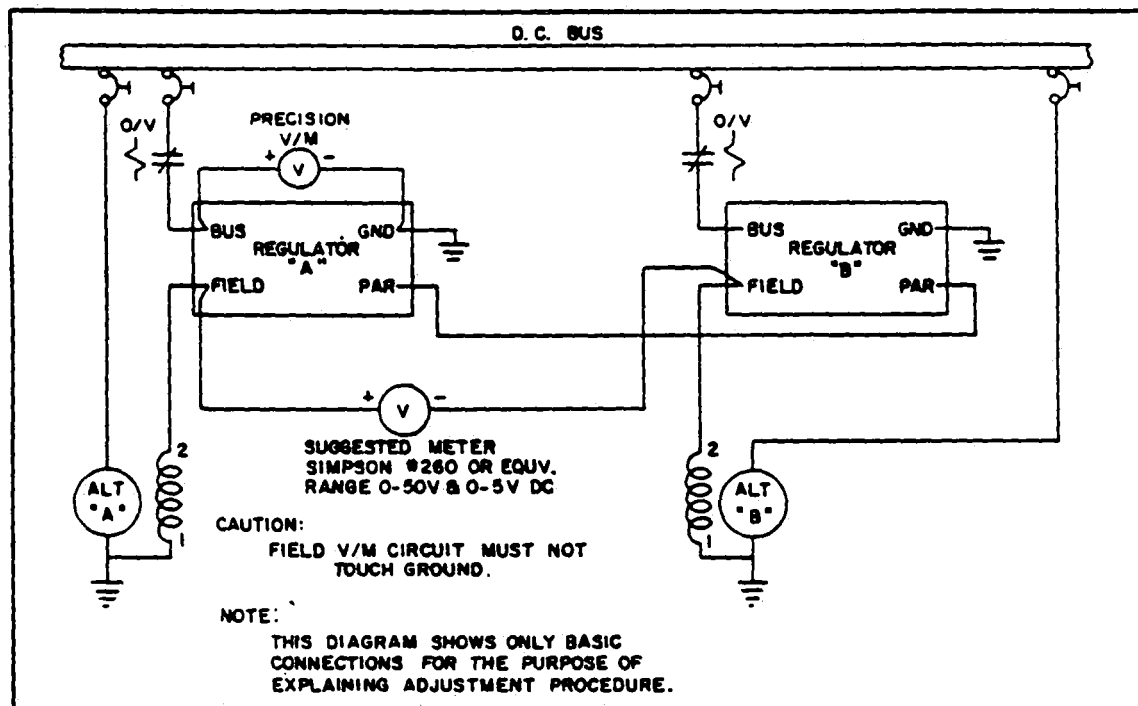

Figure 11-36b. Adjusting Regulator (LAMAR)
a. These regulators are normally used in parallel alternator systems of multi-engine aircraft. Their final adjustment should be made in actual operation in the aircraft system with test equipment connected as shown in Figure 11-36b. The balance adjustment is made while operating only one engine, either left or right. The engine to be operated must be selected so as to permit the technician a completely safe access to both of the regulators, so that they may be adjusted while the engine is operating without danger. We shall designate the engine selected to be operated as "LEFT" and the inoperative engine as "RIGHT" for purposes of discussion.